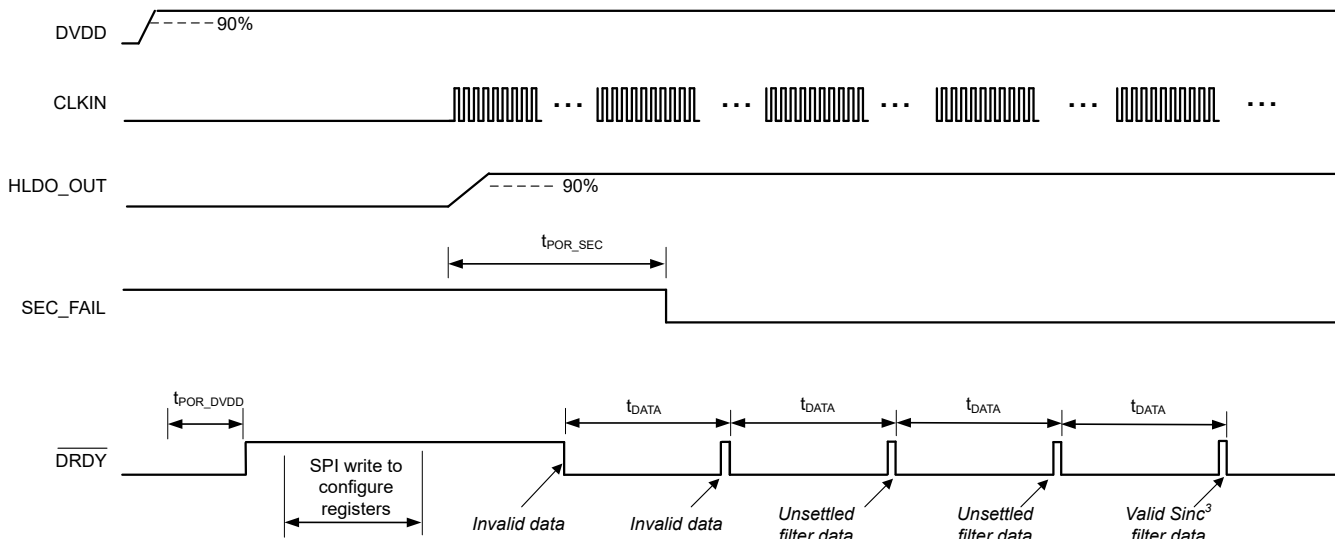
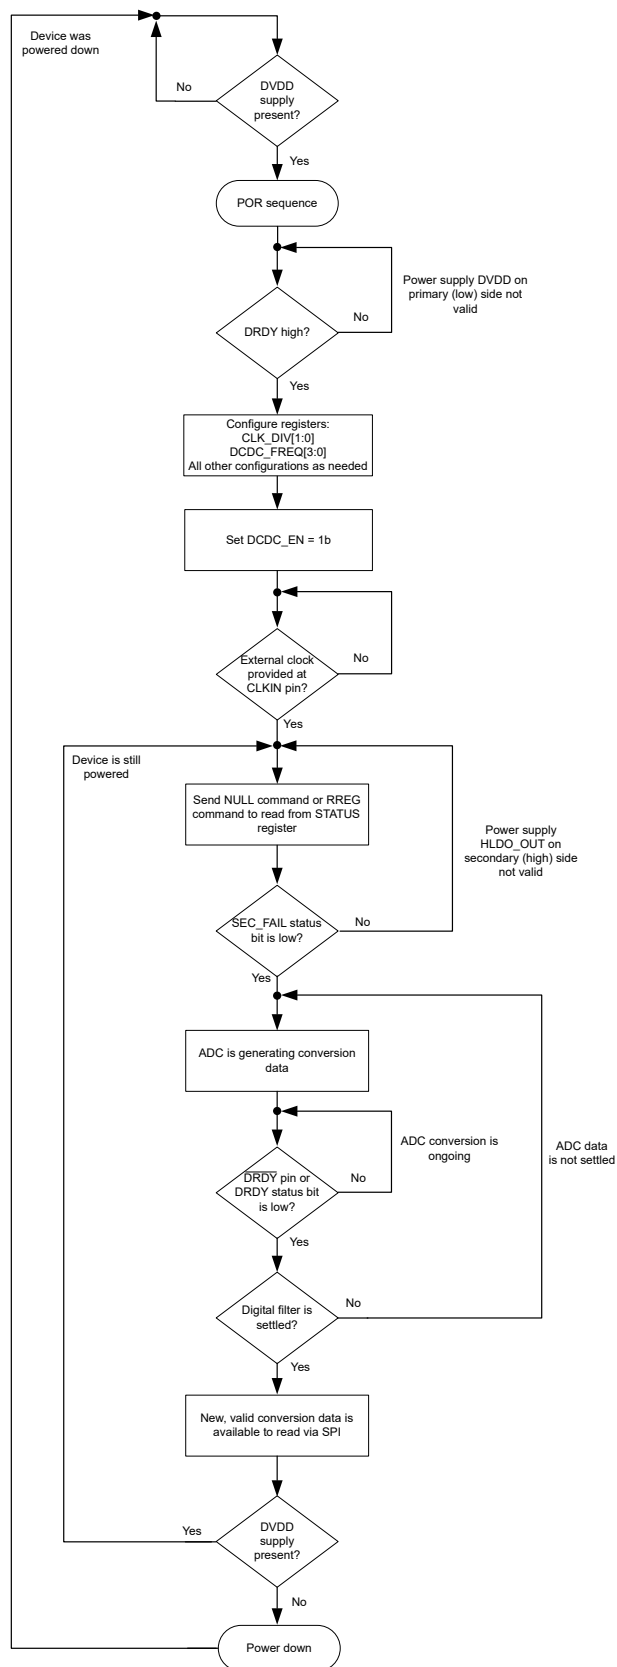

Figure 8-16. Start-Up Behavior at Power-Up and Settling Times, OSR = 1024
Figure 8-17. Flow Diagram for Start-Up Procedure at Power-Up
A recommended procedure for powering up the AMC131M02 is described in this section. Figure 8-16 depicts a timing diagram for the device behavior when this recommended sequence is used. Figure 8-17 provides a flow diagram that displays the recommended sequence in a graphical form.
- The high-to-low transition of $\overline{\text{DRDY}}$ indicates that new conversion data are available. As given in Figure 8-16, ADC data are only valid if the SEC_FAIL reads 0b during the conversion period. The first two conversion results shown in Figure 8-16, represent invalid data.
- When the ADC generates valid data, the digital filter must settle, as described in the *SINC³ and SINC³ + SINC¹ Filter* section. Two subsequent conversion results illustrated in Figure 8-16 are unsettled (assuming OSR equals 1024), and the last conversion result shown provides valid and settled data.
In Figure 8-16, $t_{\text{POR_SEC}}$ is the time from enabling the DC/DC converter to the first falling edge of the SEC_FAIL bit, which indicates that the secondary power supply at the HLDO_OUT pin is stable. $t_{\text{POR_DVDD}}$ is the time from DVDD supply at 90% to $\overline{\text{DRDY}}$ first rising edge.